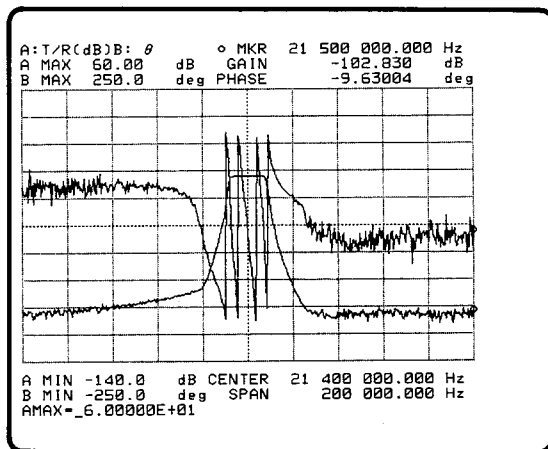

Figure 3-77. AMAX=6.00000E+01
2. Press the '**A MAX (B MAX)**' softkey. AMAX=(current value) will be displayed on Keyboard Input Line as shown in Figure 3-77.